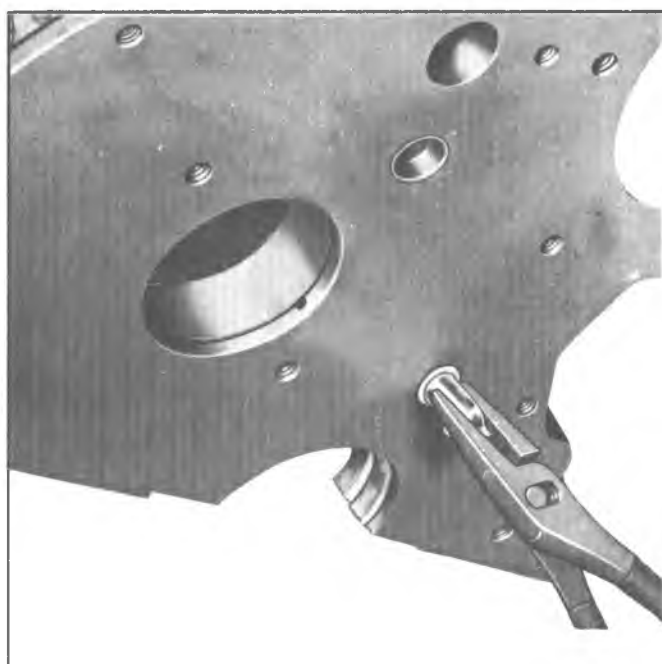

Fig. 65—Oil Nozzle Replacement (In-Line)
1. Remove nozzle with pliers (fig. 65).